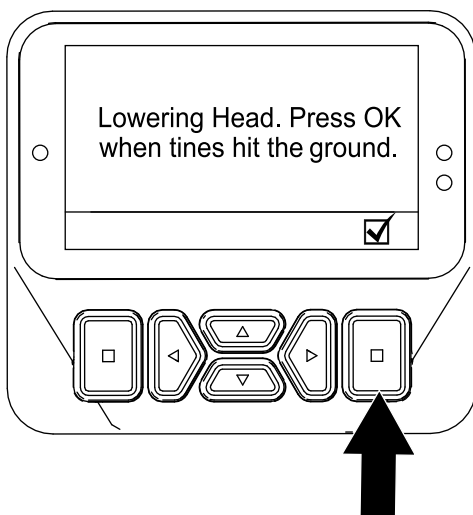

**Figure 64**
6. When any tine touches the ground, press the select button on the Lowering Head screen (Figure 64).